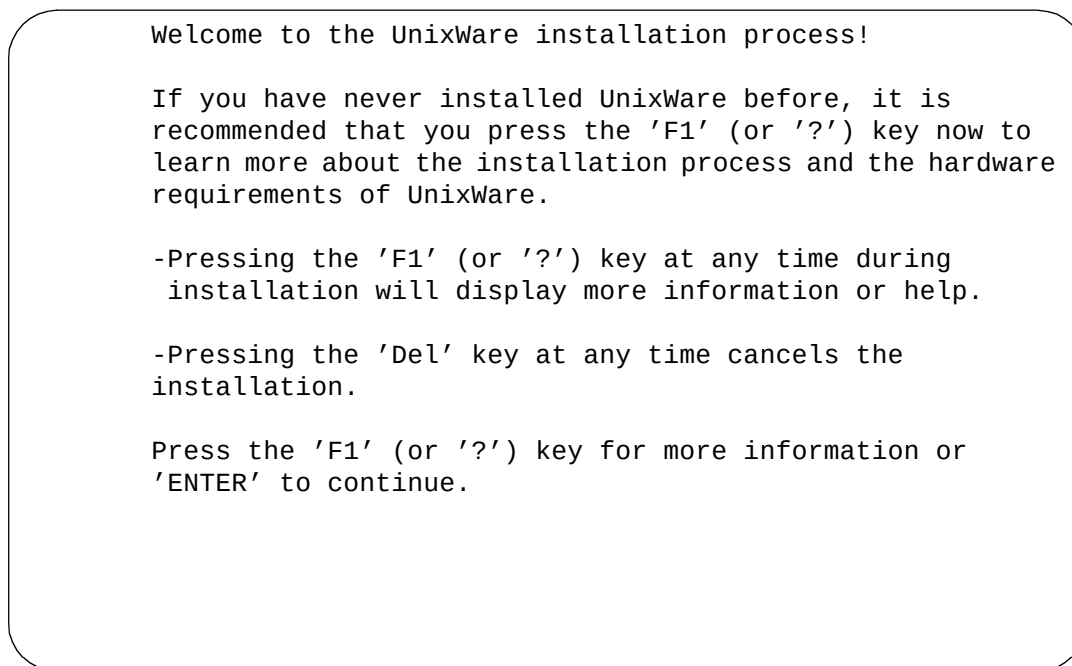

Figure 9-2. Introduction Screen
After approximately 2 minutes the system displays the Introduction screen (Figure 9-2).
1. Starting at the Introduction Screen (Figure 9-2), press **ENTER**.